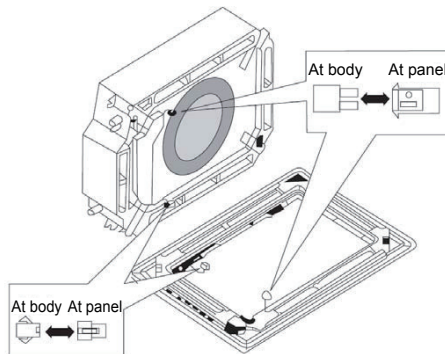

Fig.11.16
4). Connect the joints for swing flap motor lead wire (at 2 places) installed on the panel (Refer to Fig.11.16).